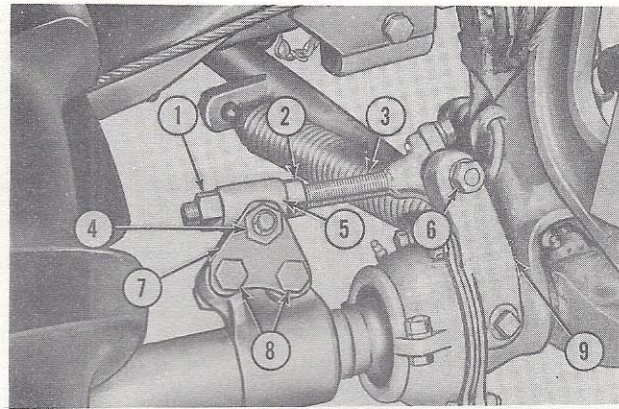
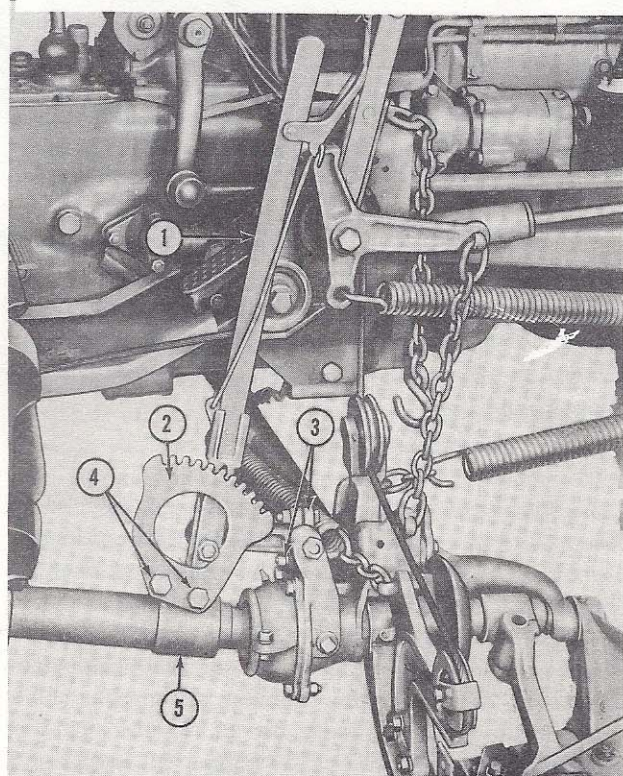

Figure 10
Figure 11
Cutter Bar Tilt: A tilt mechanism is provided as standard equipment, Figure 10, to tilt the leading edge of the cutter bar up or down for various mowing conditions. For example: When mowing in stoney fields, the points of the guards should be raised. When mowing smooth, even fields, the points of the guards should be close to the ground. To tilt the cutter bar down, loosen the nut (2), Figure 10, as required, and tighten the nut (1) against the pivot (5) to move the cutter bar downward. To raise the cutter bar, loosen nut (1) and tighten nut (2). If the mower has a tilt lever (optional equipment), Figure 11, the lever must be moved forward to move the cutter bar down or back to raise the cutter bar.